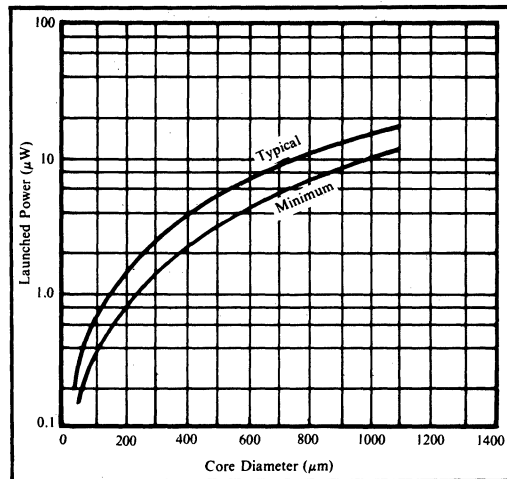

FIGURE 10. Launched Power vs Core Diameter.
An advantage of the 3713T over many other fiber optic transmitters is the way output power has been specified. The 3713T specifies the actual power launched into the cable. Thus, such complicated effects as LED output power and emission profile, cable numerical aperture (NA), and spacing between the LED transmitter and the cable have all been taken into consideration for the user. For cables other than those specified in the Electrical Specification Table, the power launched may be determined from the curve in Figure 10.
The minimum cable length may be determined for a specific cable by calculating the power launched into it as previously done using the typical curve from Figure 10. The typical value of launched power should be used since this will give the most power into the receiver, resulting in the desired minimum cable length.
As an example, consider a cable with a 368μm core diameter and a cable loss of 330dB/km. The typical power launched into the cable from Figure 10 is 3.5μW.